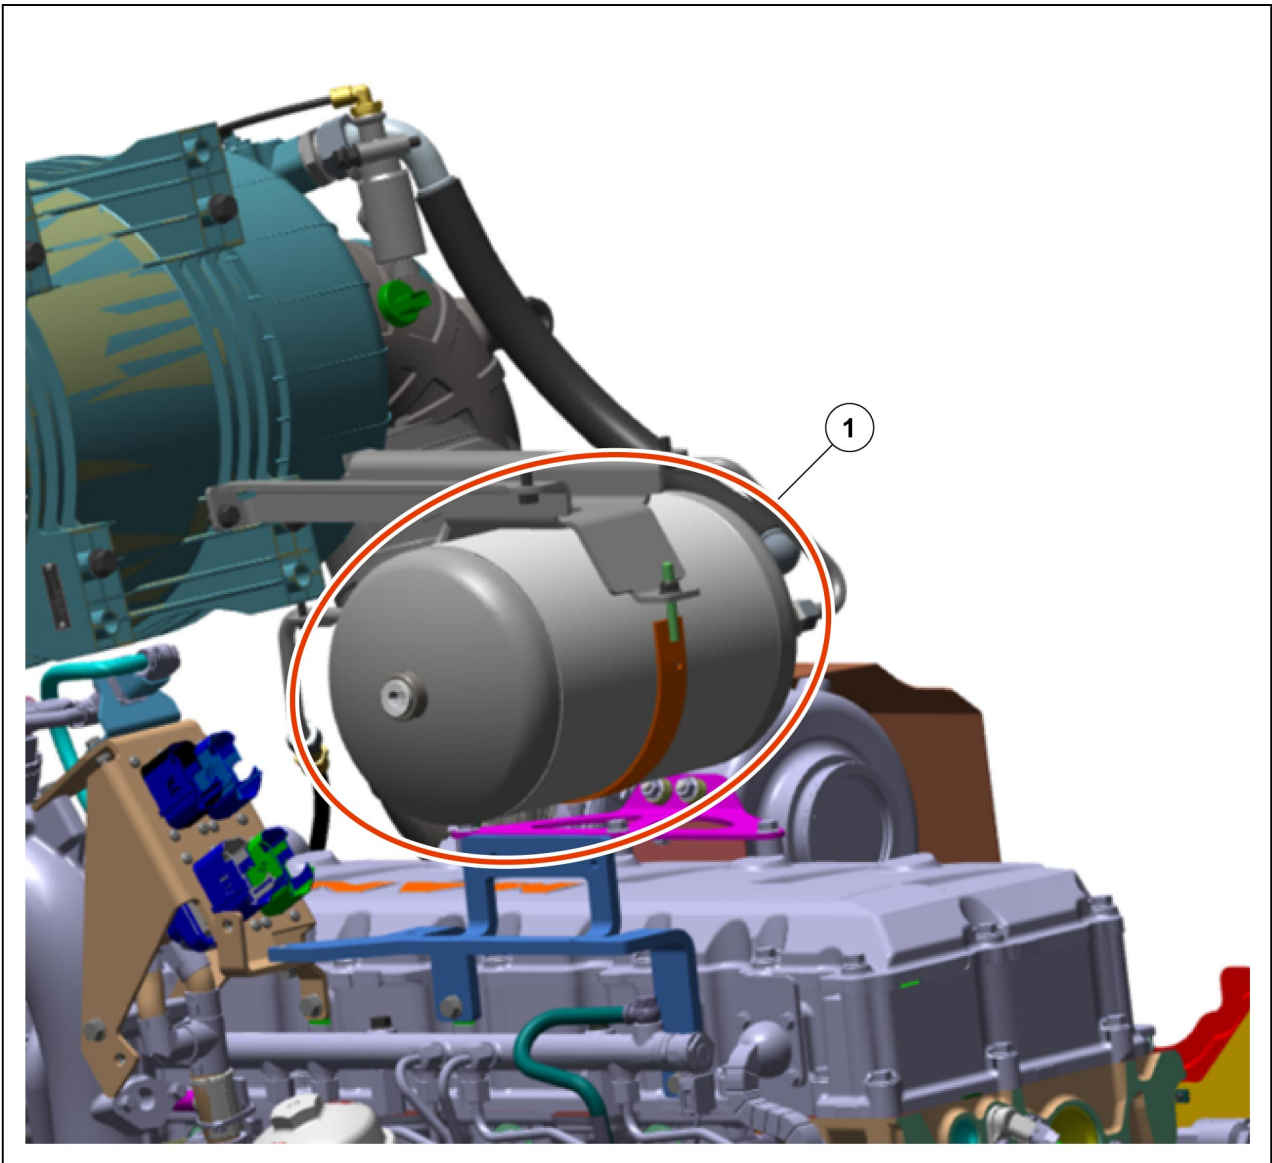

Fig. 2
NOTE: For machines equipped with self-cleaning air filters, an additional 0.5 hour labor time is permitted. These machines can be recognised by the air accumulator (1) above the valve cover as shown in (Fig. 2).